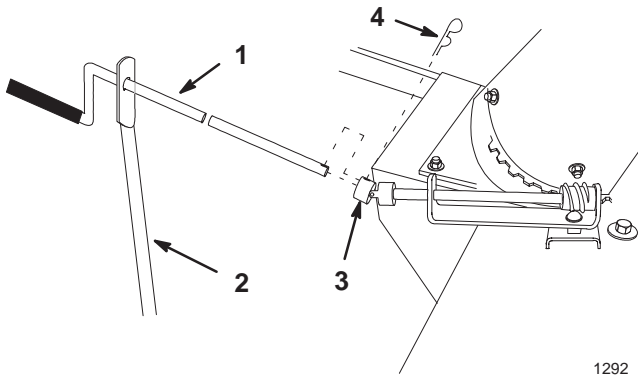

Figure 25
- Slide the crank handle through the hole in the rod support and secure the handle to the U-joint with a hairpin cotter (1-7/8 inch) (fig. 25).